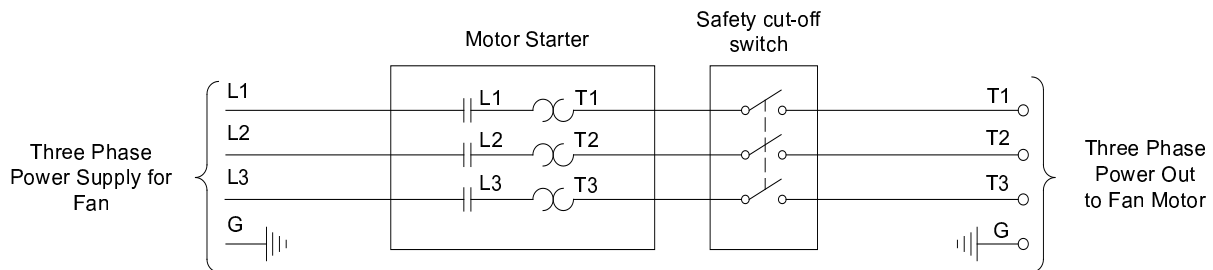

Figure 13
**Three Phase Fans:** motor overload protection should be provided for each fan. A three-pole motor starter or slow blow motor fuses must be used. See Figure 13.